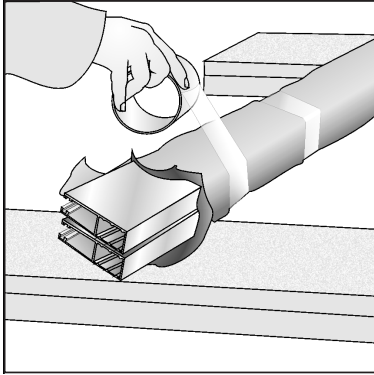

Fig. 05
- c) packing the guides (Fig. 05);